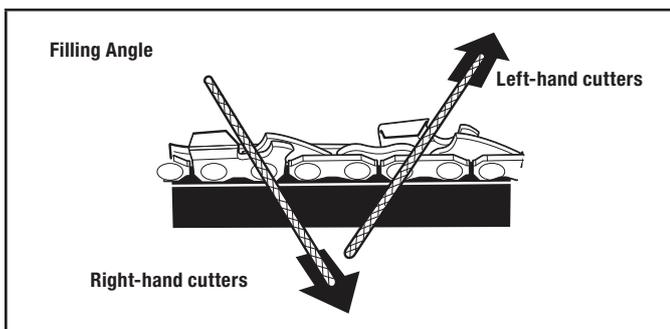

Figure 33
- 2c. File toward the front corner of the cutter (Fig. 33). Lift the file away from the cutter at the end of the forward stroke. Only file on the forward stroke.
2e. File all the left-hand cutters in one direction (Fig. 33). Then move to the other side of the saw chain and file all of the right-hand cutters in the opposite direction (Fig. 33).